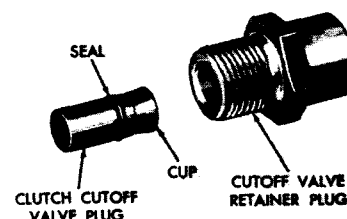

Fig. VI-11. Clutch cutoff valve plug and retainer plug S2421
(2) Remove the clutch cutoff valve plug from the retainer plug. Remove the cup and seal from the valve plug (fig. VI-11).
(3) Complete the disassembly by following instructions in 6a (5) through (11), above.
c. Assembly (item 36, B, foldout 14)
(1) Follow instructions in 6c (1) through (9), above.
(2) Install seal ring 59 (B, foldout 14) into the groove on plug 58. Install cup 60 onto the projection on plug 58. Install the valve plug, with cup and seal, into retainer plug 62. Fig. VI-11 shows the proper relation of parts.
(3) Install the clutch cutoff valve, small